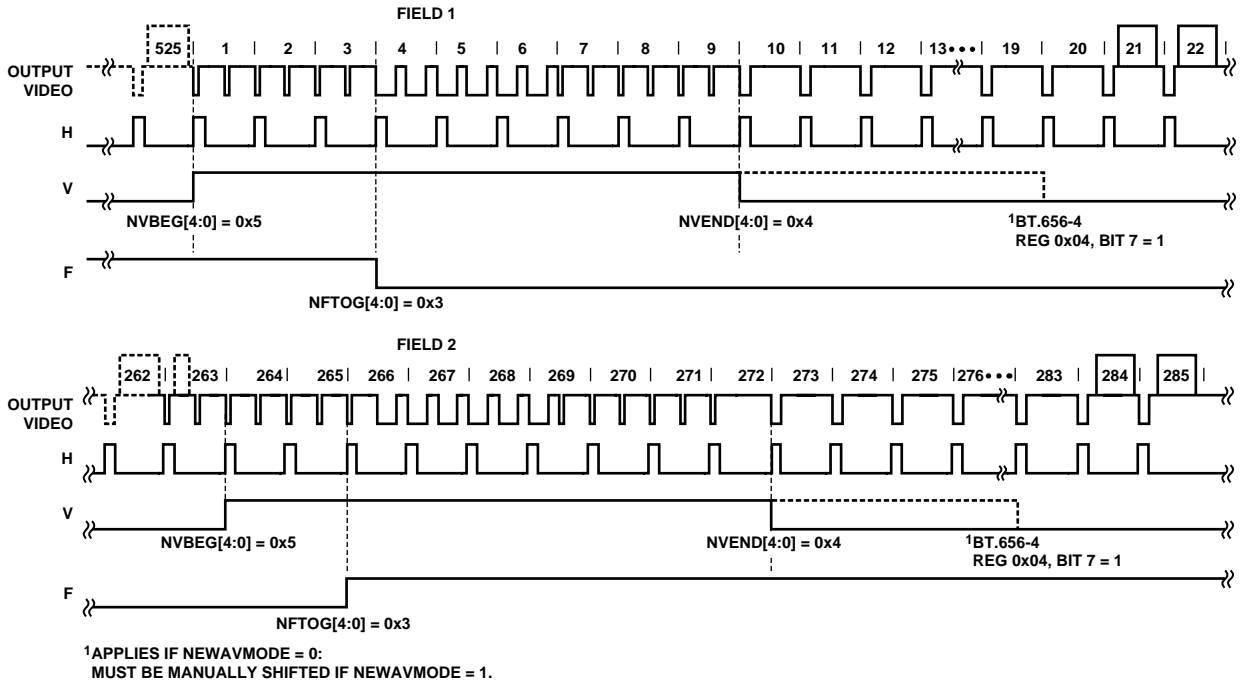
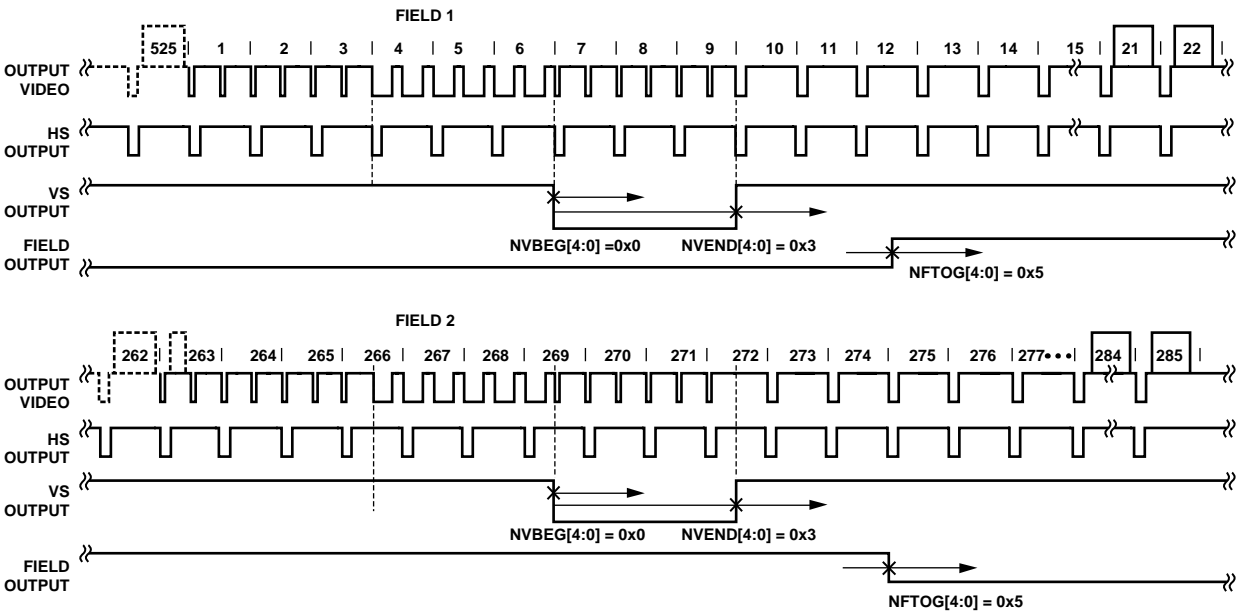

Figure 21. NTSC Default (BT.656). The Polarity of H, V, and F is Embedded in the Data.
Figure 22. NTSC Typical Vsync/Field Positions Using Register Writes in Table 56
Setting NEWAVMODE to 1 (default) enables the manual position of the Vsync, Field, and AV codes using Register 0x34 to Register 0x37 and Register 0xE5 to Register 0xEA. Default register settings are CCIR656-compliant; see Figure 21 for NTSC and Figure 26 for PAL. For recommended manual user settings, see Table 56 and Figure 22 for NTSC; see Table 57 and Figure 27 for PAL.
**Table 56. Recommended User Settings for NTSC (See Figure 22)**